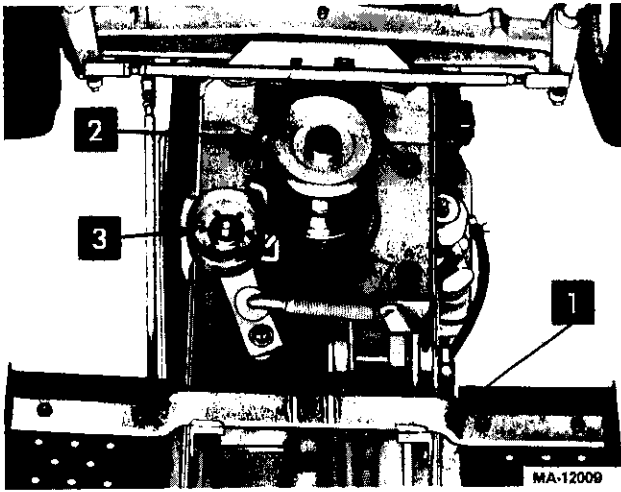

FIGURE 20.
1. Disconnect the mower drive belt from the main drive pulley and clutching idler pulley. The belt guide around the main drive pulley is spring hooked for ease in removing the belt. See figure 20.